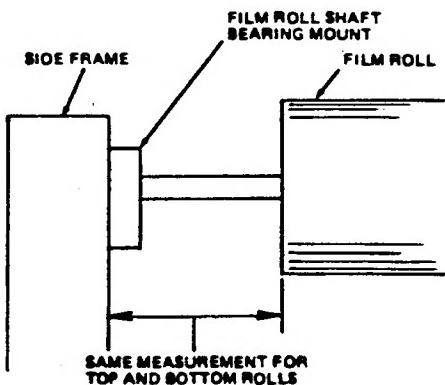

Figure 4.1.3
- 13) Align the top and bottom film rolls with a tape measure or ruler so that they are positioned approximately the same distance from the left side frame. See figure 4.1.3. Improper edge alignment of film webs will allow adhesive to transfer onto rollers and heaters. If this occurs, clean immediately.